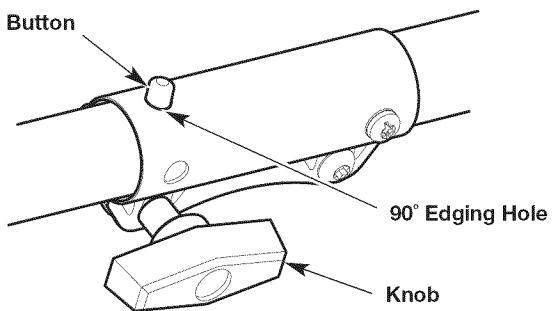

Fig. 20
1. Turn the knob counterclockwise to loosen the coupler (Fig. 20).
2. Press and hold the release button (Fig. 20).
3. Rotate the attachment until the release button snaps firmly into the 90° edging hole (Fig. 20).
4. Turn the knob clockwise to tighten the coupler (Fig. 20).